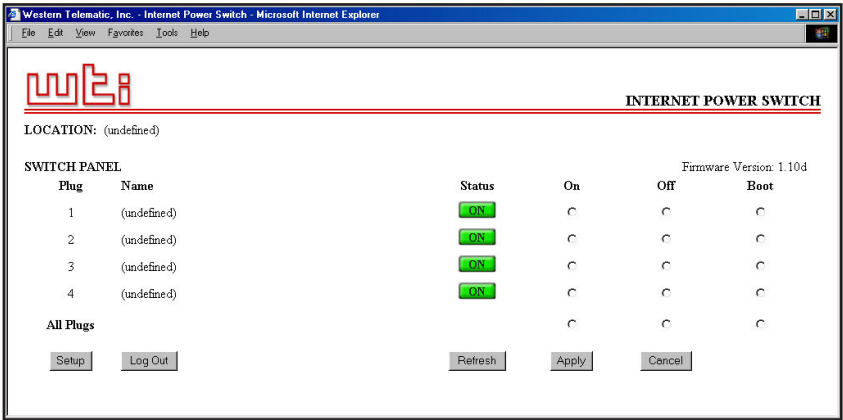

Figure 3.1: Plug Status Screen - Web Browser Interface
- a) **Web Browser Interface:** Start your JavaScript enabled Web Browser. Enter the IPS's default IP address (<http://192.168.168.168>) in your browser's address bar and then press **[Enter]**. A password prompt will be displayed. Since at this point, the user name and password have not yet been defined, you can simply click OK without keying in a user name or password. The IPS Plug Status Screen will be displayed as shown in Figure 3.1.